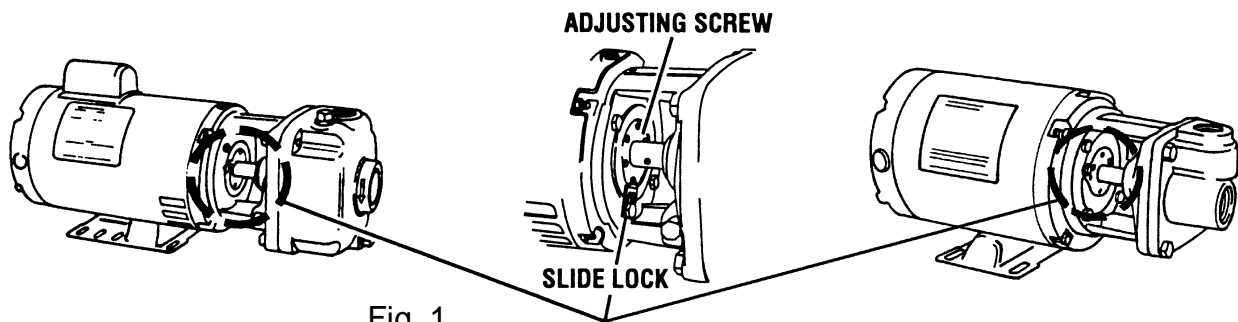

Fig. 1
2. Loosen Impeller Adjusting Screw Lock. The locking device is a brass slide lock held by a hex head cap screw. (Fig. 1)